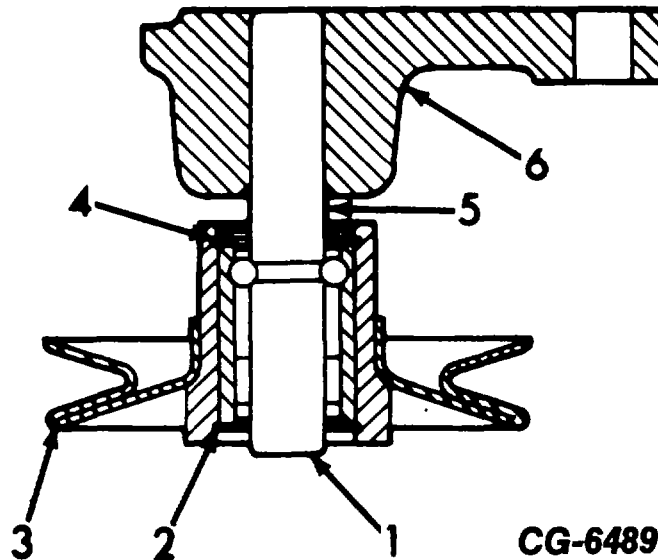

Figure 48. - Air Compressor Idler Pulley (New Style)
1. Install front ring (2, Fig. 48) into ring groove at large end of pulley hub (3).
2. Apply engine oil to the O. D. of the bearing race. Support the pulley (3) at the large diameter of the hub and, pressing only on the outer race of the bearing (1), press the stub end of the bearing into the hub until the bearing bottoms against the retaining ring.
3. Install the rear retaining ring (4) into the ring groove at the chamfered end of the pulley hub (3).
4. Apply engine lubricating oil to the bearing shaft (5) and, pressing only on the front (stub end) of the shaft, press the shaft into the bracket (6) until the shaft (5) is flush with the rear finish of the bracket (6).